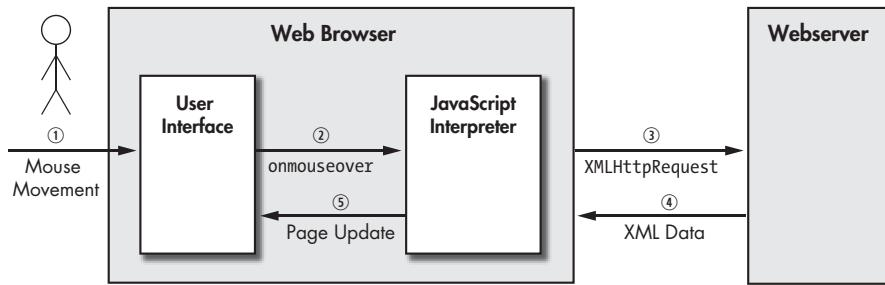

Figure 8-7: Typical Ajax sequence.
Figure 8-7 shows an example of how the Ajax communication mechanism works. The exchange in this figure is initiated when the user mouses over an active element on the web page at event ①. An `onmouseover` action is triggered and JavaScript code is executed in the web browser at event ②. The JavaScript code creates an XMLHttpRequest object with the URL of the server-side script and a JavaScript callback function, and the web browser then sends the XMLHttpRequest object to the server at event ③. On the server side, the particular script identified by the URL responds with XML data at event ④. The web browser then receives the XML data and invokes the JavaScript callback function at event ⑤, which updates the portion of the web page.